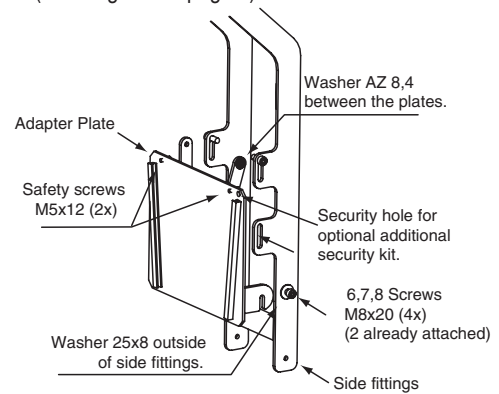

Figure 3
- ⑥ Mount side fittings at the required height. Insert four M8 x 30 bolts where indicated. Tighten all bolts (see Fig. 3).
- ⑦ Fasten fixture to ceiling (see Fig. 3). NOTE: Do not forget to use washers when attaching fixture and lid. If needed, adhere plastic lid to ceiling using double-sided tape.
- ⑧ Attach universal plasma or plasma-specific bracket to plasma display using enclosed screws and washers (see separate instruction sheet).
- ⑨ Hook adapter plate onto M8 x 20 screws on side fittings. Make sure washers are tight against the fittings. Fasten screws, making sure that washers are between the plates (see Fig. 3). Use holes appropriate to screen size (see diagram on page 2).